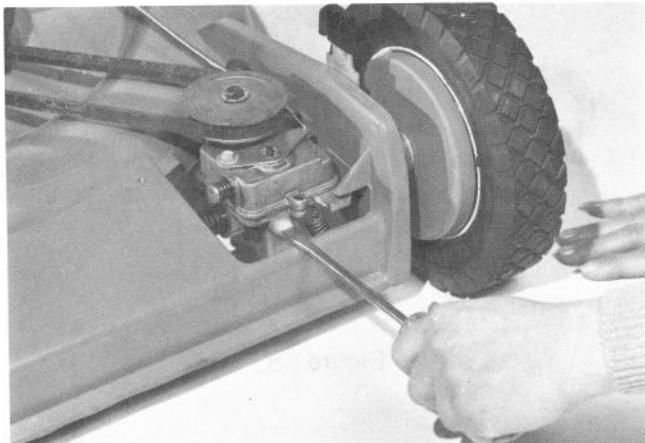

Figure 31
3. Place mower on level surface, clean area around plastic plug and remove plastic plug from gear case. Gear oil will flow out hole in gear case if filled to proper level (Fig. 31). If no gear oil is evident add gear oil to gear case: proceed to item 4.